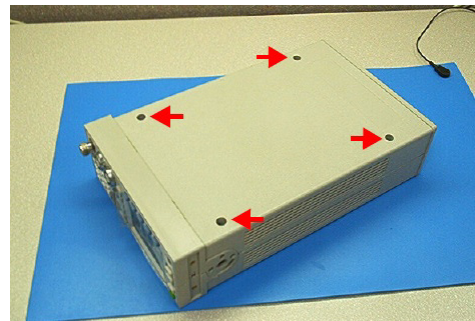

Figure 6-2 Separate the clamshells
- Separate the clamshells (Figure 6-2): Use the T20 Torx screwdriver bit to loosen the four captive screws.